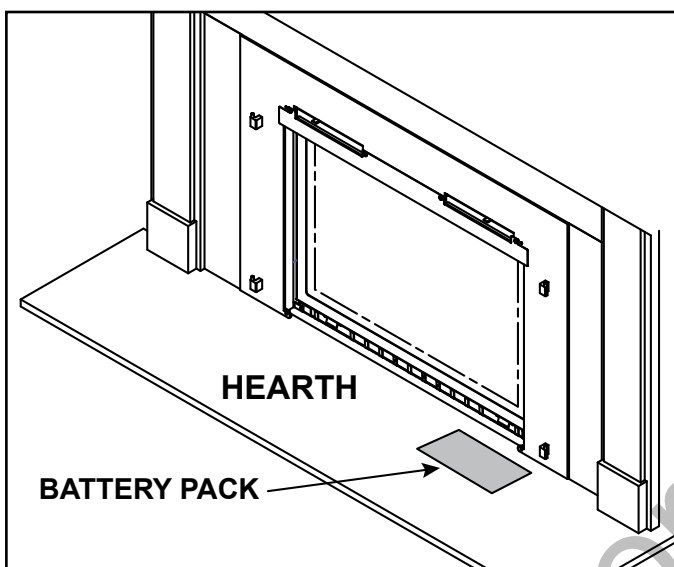

Figure 3.5
6. Place the battery backup power source away from any heat source and hot surface to the extent possible. Excessive heat will reduce the battery life. See Figure 3.5.